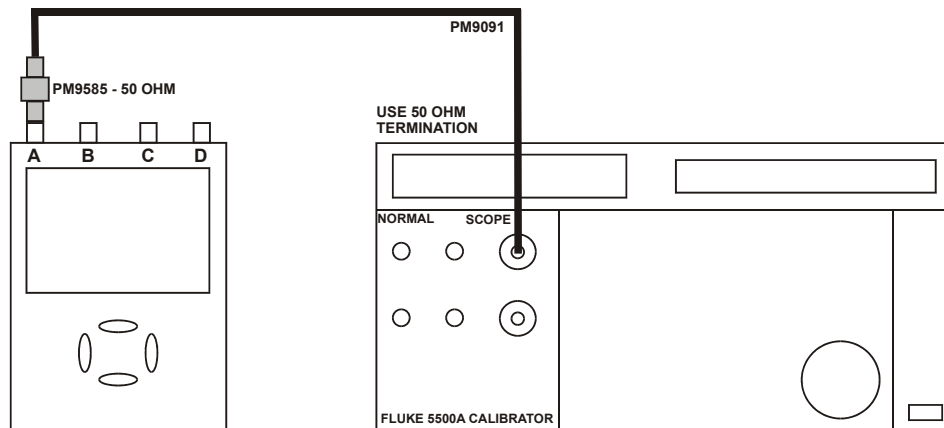

Figure 4-6. 5500A Scope Output to Test Tool Input A
1. Connect the Test Tool to the 5500A as shown in Figure 4-6.
1. Connect the Test Tool to the 5500A as for the previous test (see Figure 4-6).